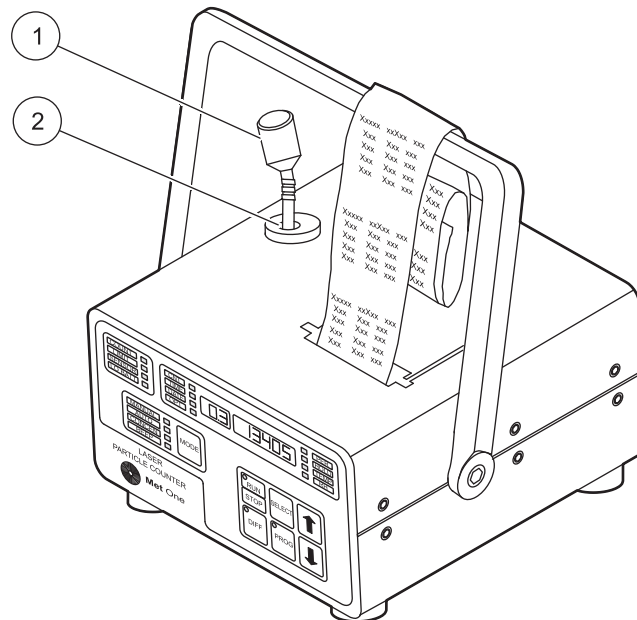

Figure 4 Isokinetic probe connected to MET ONE 237 particle counter
2. Connect the isokinetic probe to the sensor inlet so that the open end faces the direction of the air stream (refer to Figure 4).